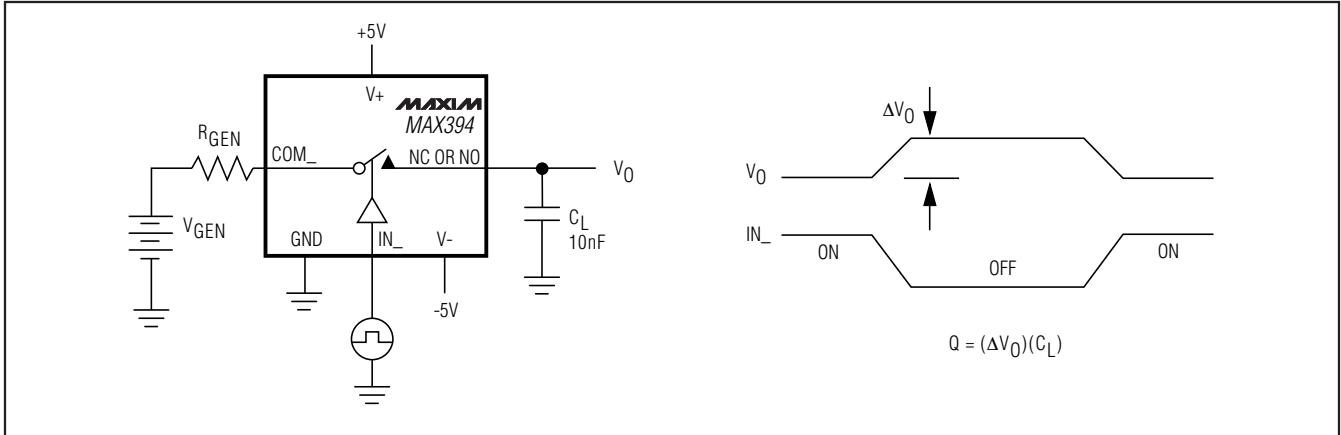

Figure 6. Charge Injection
**Note 6:** See Figure 6. Off-isolation =  $20\log_{10} V_{COM}/V_{NC}$  or  $V_{NO}$ , VCOM = output, VNC or VNO = input to off switch.